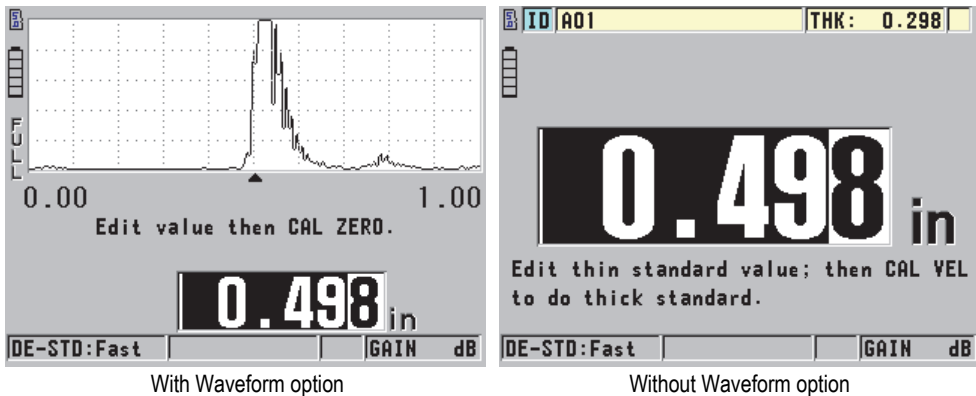

Figure 5-5 Performing the sound velocity calibration on a five-step test block
1. To perform the material sound velocity calibration using an instrument with or without the Waveform software option (see Figure 5-5 on page 66):